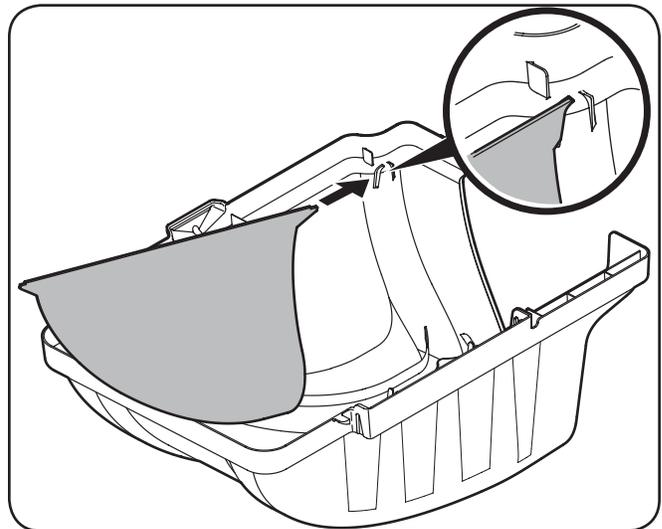
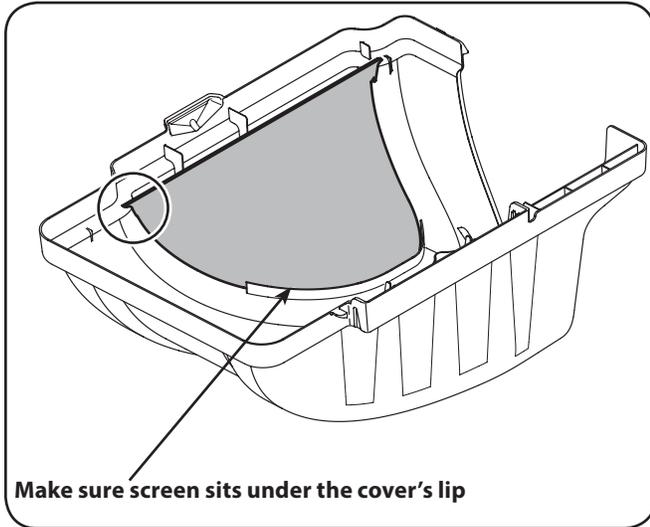

Figure 4-7
Figure 4-8
- If not already installed by the factory**, install the bagger screen into the bagger cover by first inserting one end into the corresponding cutout mounting hole, as in Figure 4-7. Make sure to feed the screen under the lip, as in Figure 4-8.
- Clip in the other side of the screen by flexing the screen and pushing it down into the other corresponding cutout hole. See Figure 4-8.